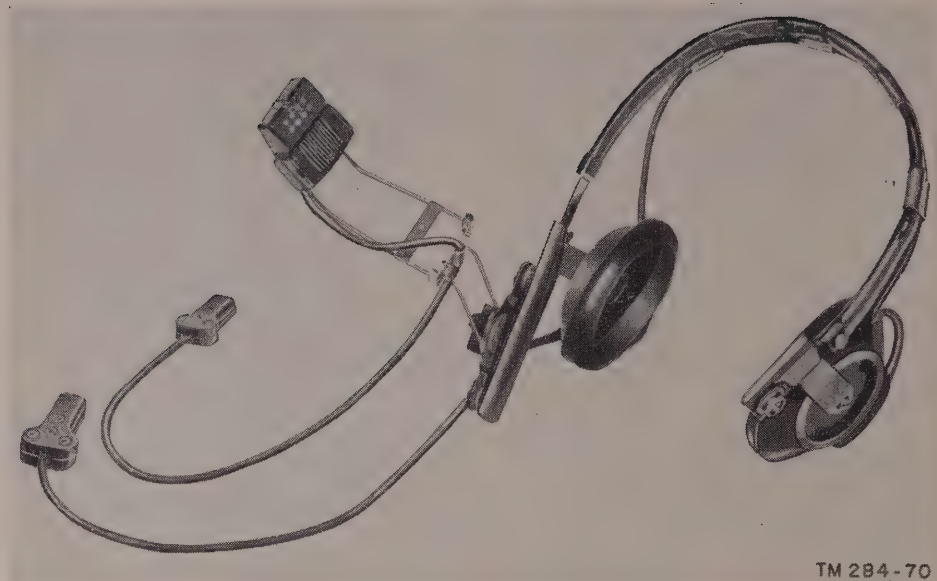

Figure 12. Headset-Microphone H-63/U.
c. HEADSET-MICROPHONE H-63/U. Headset-Microphone H-63/U (fig. 12) consists of two series-connected 300-ohm receivers and a 100-ohm microphone. The microphone is mounted on an adjustable boom attached to the receiver headband. Two 14-inch conductors from the microphone and headset are terminated in two-pin and three-pin jacks, respectively. These jacks will mate with the plugs on Chest Set Group AN/GSA-6.